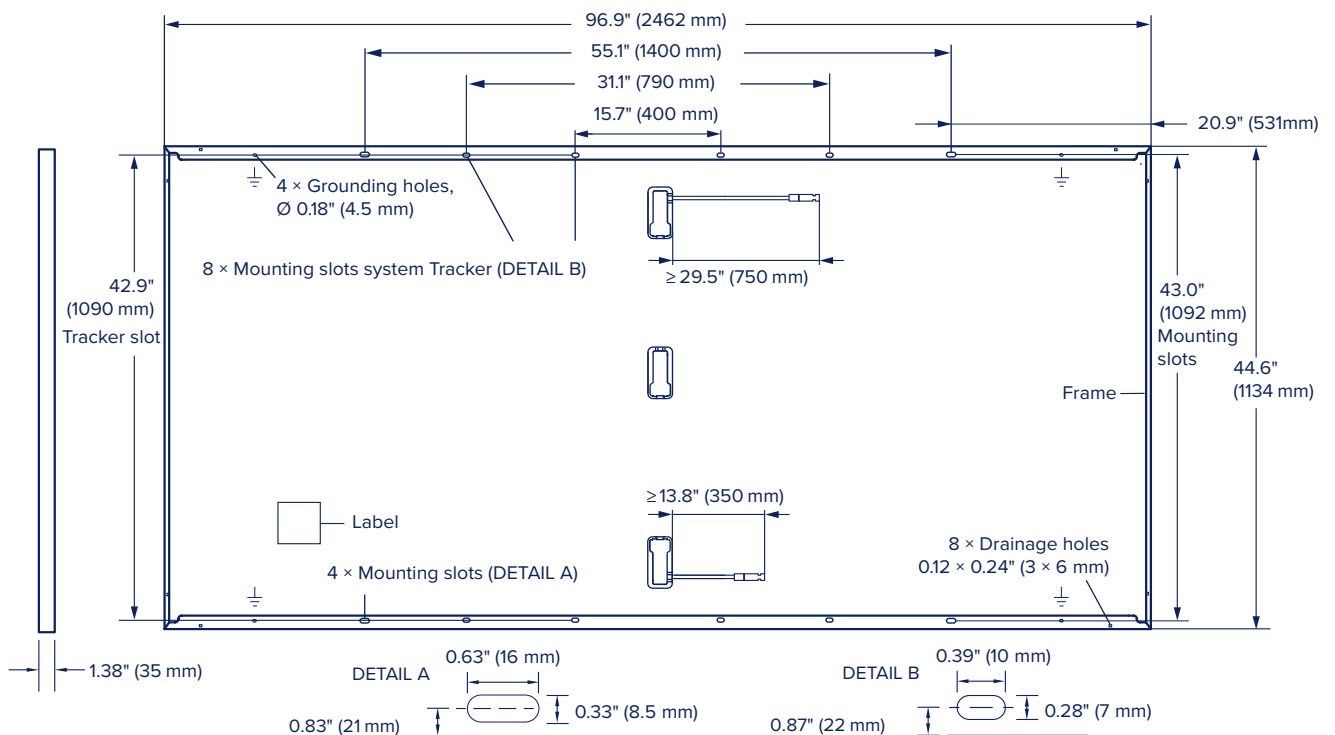

Fig. 1: External dimensions and components for Q.PEAK DUO XL-G11S.3/BFG, Q.PEAK DUO XL-G11S.7/BFG and Q.PEAK DUO XL-G11S.Y3/BFG.
- Clamp position: center of contact area in the axis of the mounting slots (Detail A, Fig. 1) or closer to the hollow chamber.